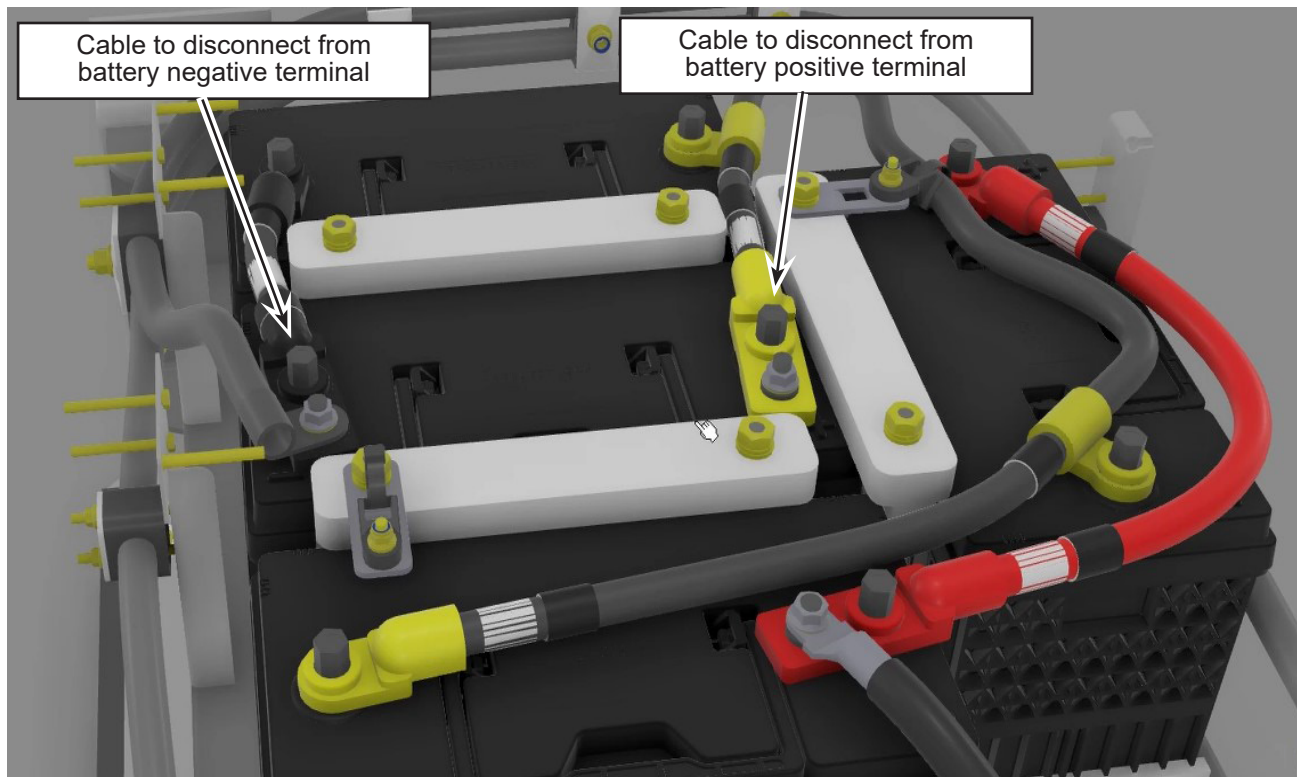

Figure 4 - Cable to Disconnect on the Battery
- 2.2. Disconnect the cable from the battery negative terminal. See Figure 4.
- 2.3. Disconnect the cable from the battery positive terminal. See Figure 4.